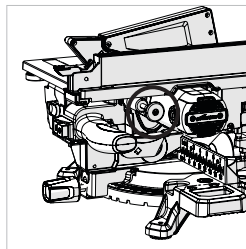

Fig. 4
- Pull out pin (Fig. 4) to release the motor.